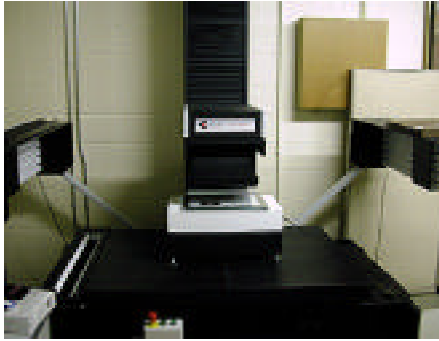

Figure 2: The Cruse reprographic scanner.
**The Cruse Synchron Scanner** is essentially an "inside-out" scanner. (See figure 2.) The main pieces consist of the head and lens, column, fixed lights, sync light, vacuum board, light box, plate glass, and book cradle.